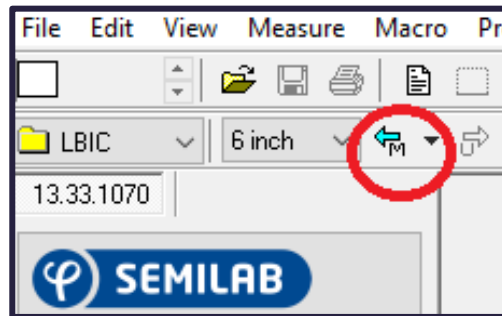

Figure. 8
8. Click on “Load wafer” tab for loading the sample. (Figure. 8)